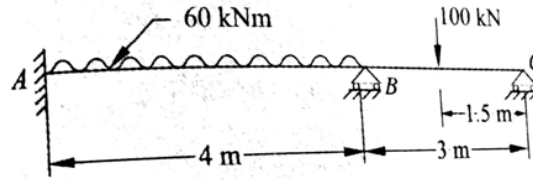

Figure 7
5. Analyse the continuous beam shown in Figure 7 using flexibility method.